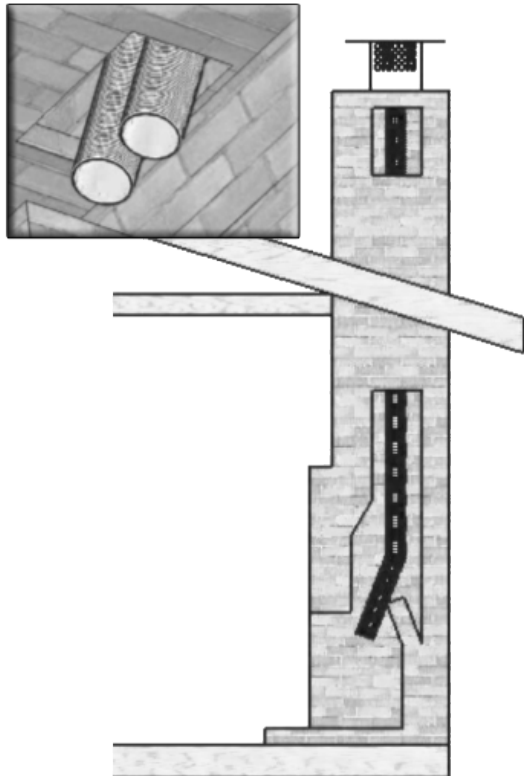

Figure 5.3, Chimney Vent Run
- Guide ropes (if used) and the flexible pipes down the existing chimney. See Figure 5.3, Chimney Vent Run.
- Guide the rope (if used) and the exhaust pipe down the existing chimney. See Figure 5.3, Chimney Vent Run.